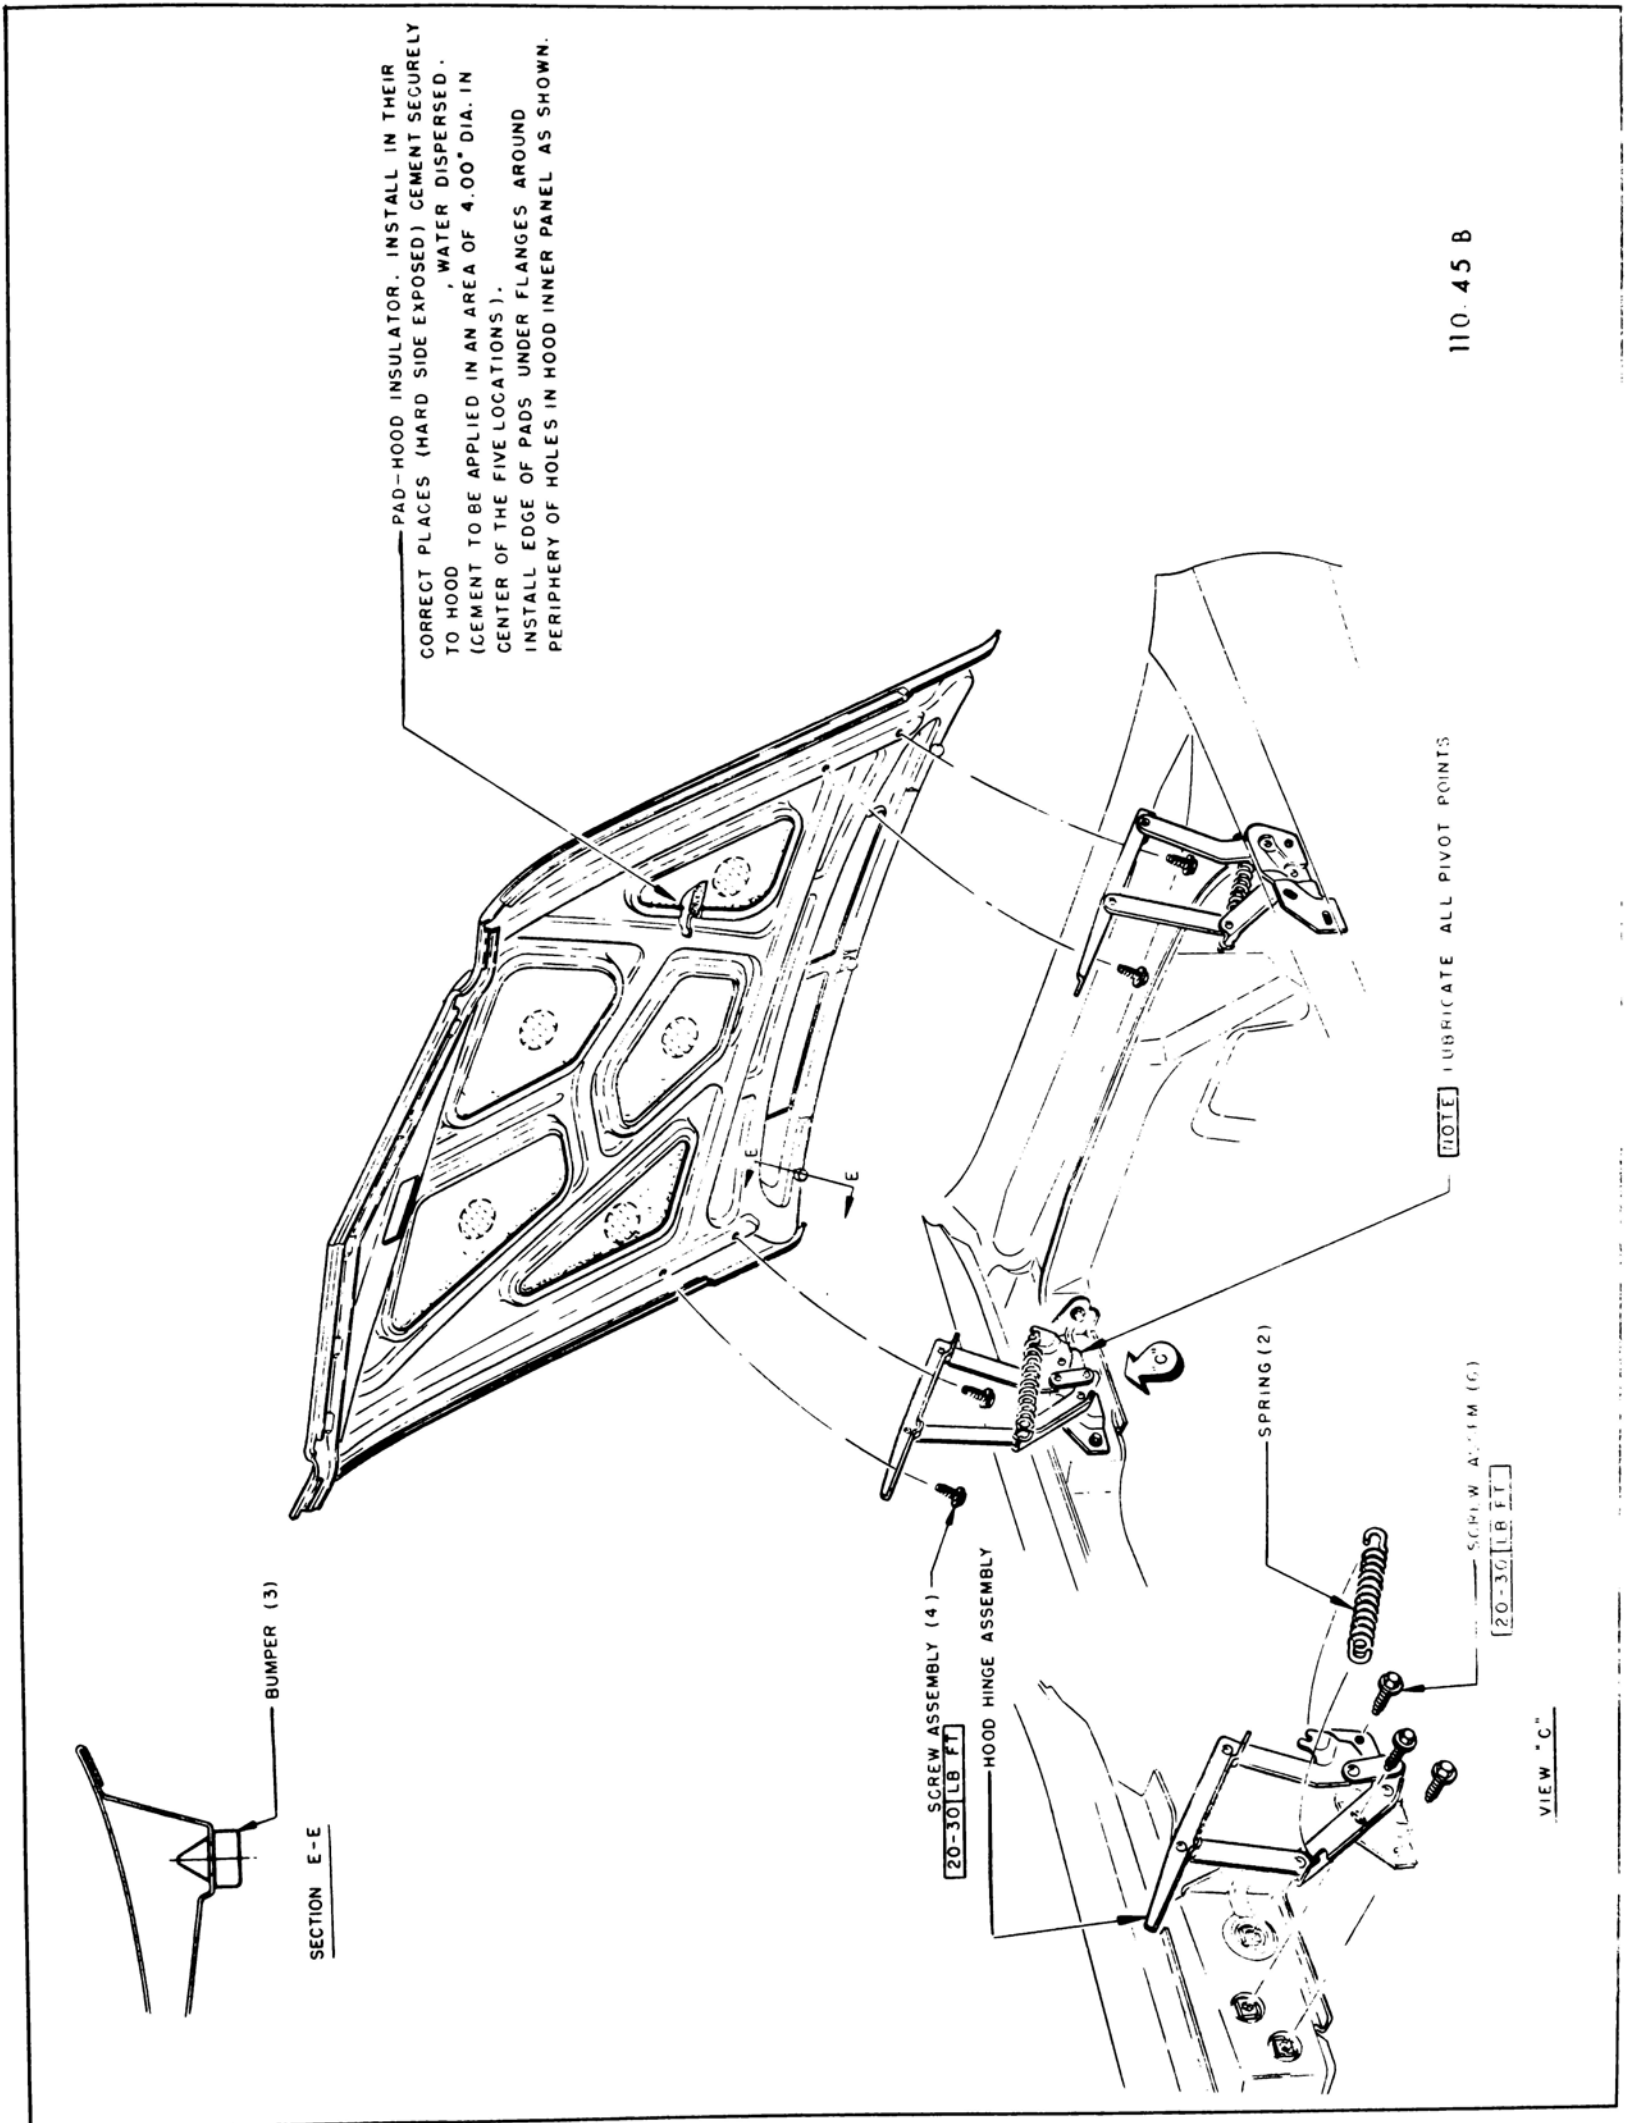

Figure 110-9 43 Hood Hinge, Hood Hinge
The rear of the hood assembly is attached to the fender on each side by hinge assemblies which permit the front of the hood to be raised. A heavy coil spring connected between each hinge assembly assists in raising the hood and holds it in the open position. See Figures 110-9 and 110-10.
3. Scribe position of the hinge attachment on fender. Remove the three bolts attaching the hinge to the fender and remove the hinge. See Figure 110-9.